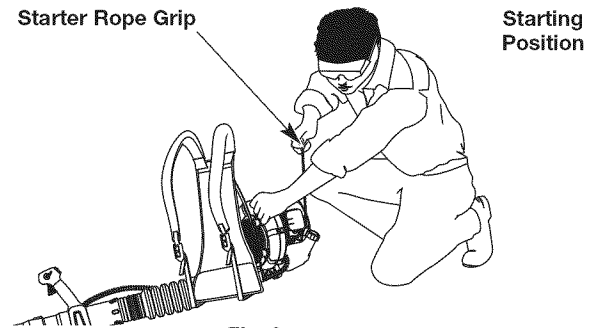

Fig. 9
**WARNING:** Avoid accidentally starting the unit. To avoid serious injury, the operator and the unit must be in a stable position when pulling the starter rope (Fig. 9).
6. Crouch in the starting position (Fig. 9).
7. Pull the starter rope with a controlled and steady motion **5 times** (Fig. 9).